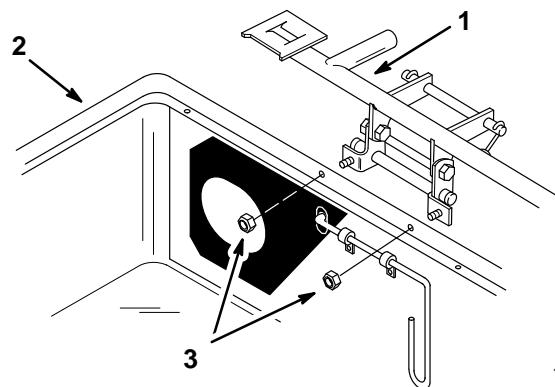

Figure 13
3. Assembly the frame assembly to the bagger cover with (2) 1/4” locknuts (Fig. 13).